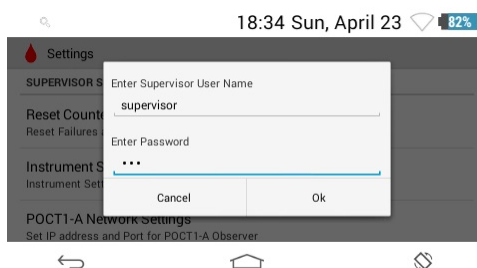

Figure 15 – Entering the factory default Supervisor password
- 2 Select the **User Name** text box to display the virtual keyboard. See Figure 15.